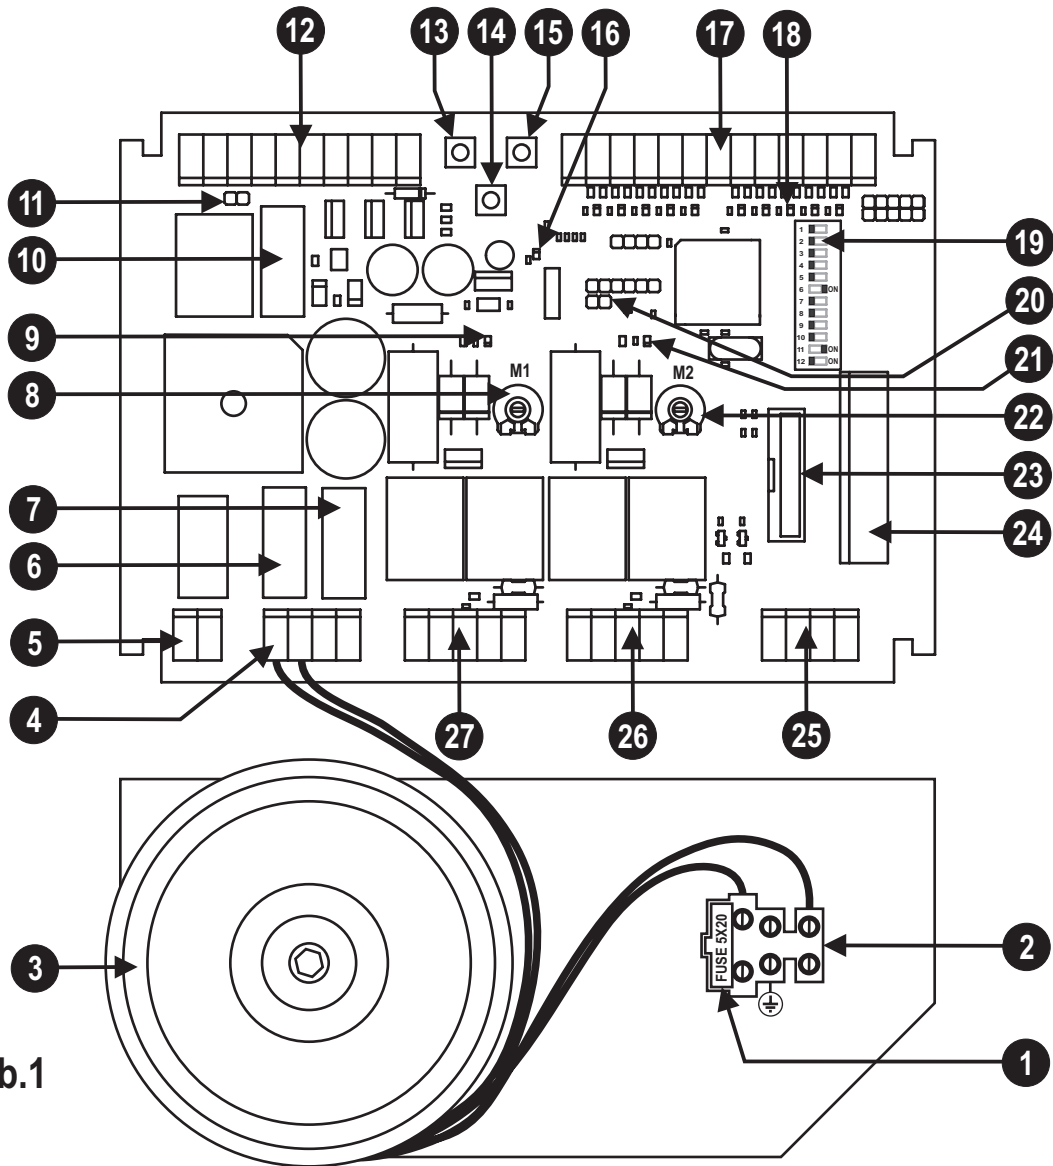

Abb.1
- Insert the receiver in the connector (detail 23 of fig. 1)
BESCHREIBUNG DER VERSCHIEDENEN TEILE (Abb. 1)